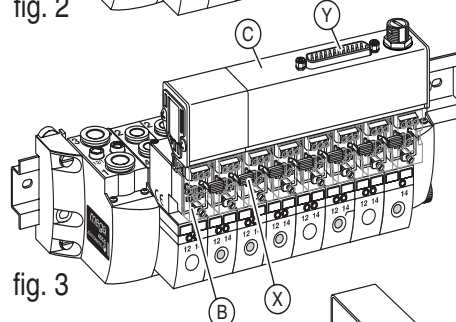

fig. 3
■ MULTIPOLAR: MULTIPOL IP20 (fig. 3)